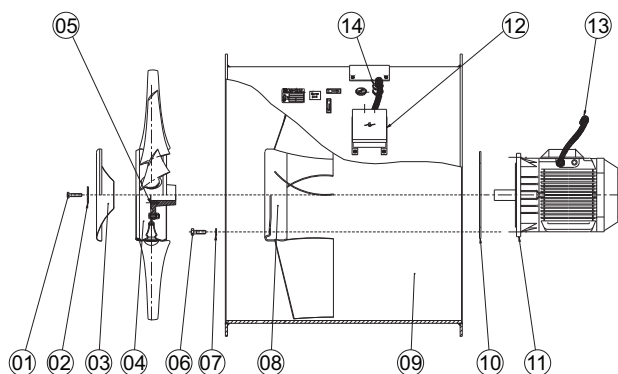

Figure 7. Dismounting and mounting of axial flow fan
Prior to commencing the work, switch off the current and disconnect the motor cable. Next, dismount any ducts on the fan inlet and outlet sides. Remove the rotor centre screw (fig. 7, item 01), centre disc (item 02) and hub cover (item 03). Dismount the rotor by means of a puller fastened in the two threaded holes of the hub boss or threaded holes for puller (item 05).
After servicing, when remounting the motor, take care that the motor flange (fig. 7, item 10) is correctly located and that the motor shaft is concentrically placed in the fan casing before tightening the bolts (item 06).